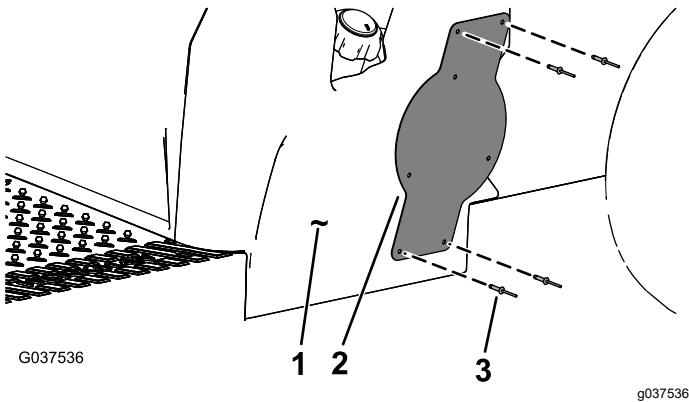

Figure 11
7. Install the plate-mount bracket to the seat base side using 4 pop rivets (3/16 x 15/16 inch) as shown in Figure 11.